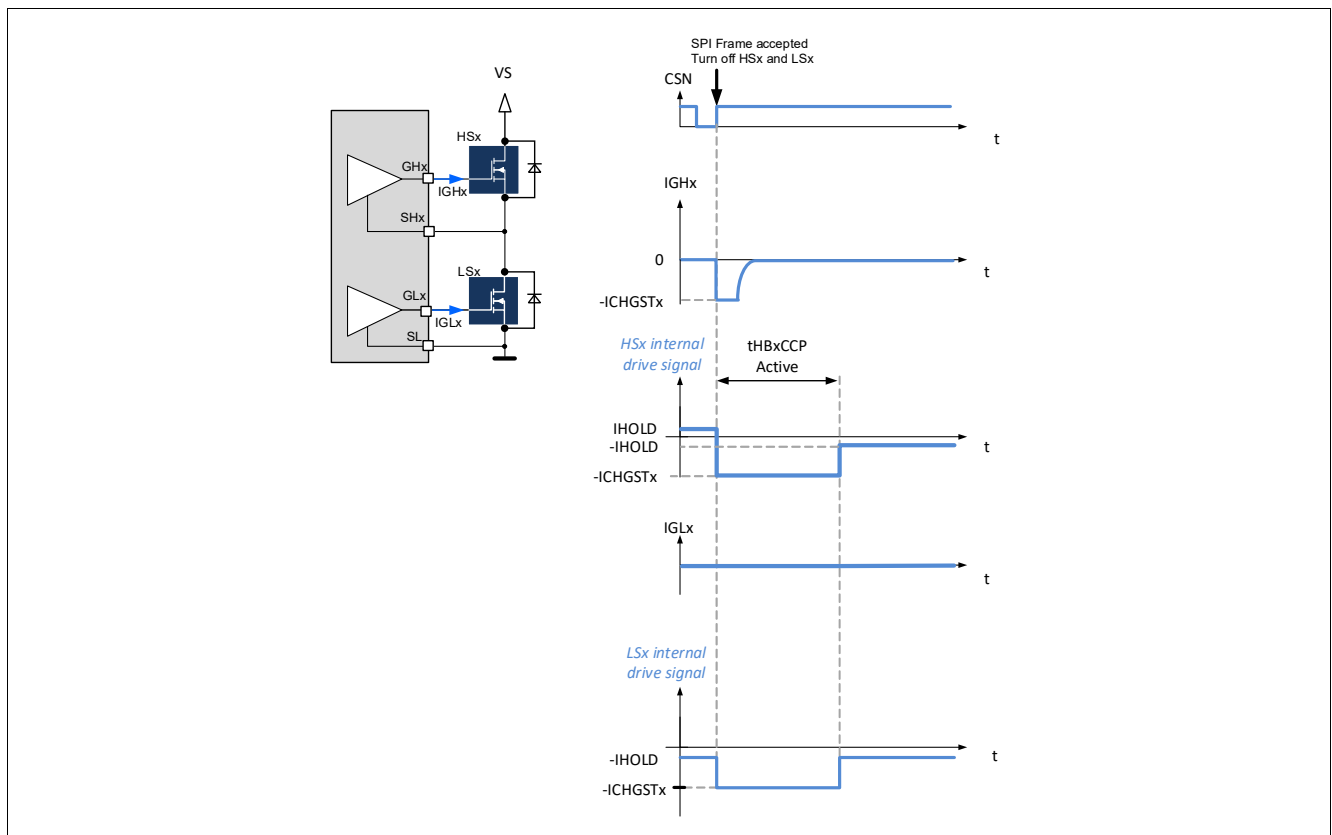

Figure 50 Turn-off of the high-side and low-side MOSFETs of a half-bridge
- The gate of HSx and LSx are discharged with the current -ICHGSTx for the duration  $t_{HBxCCP\ ACTIVE}$  (Figure 50).